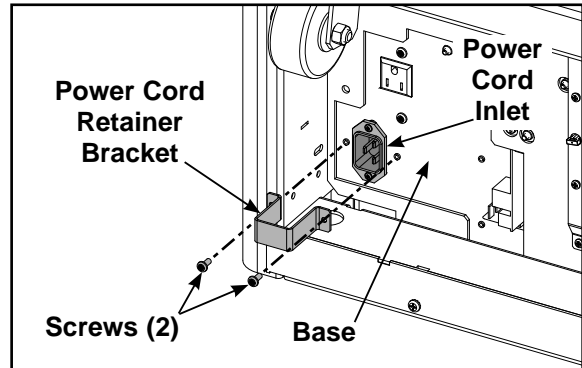

Figure 20
A. Using a Phillips screwdriver, remove the two screws securing the power cord retainer bracket to the base. See Figure 20.
- A. Insert the new power cord into the power cord inlet in the base plate. See Figure 20.